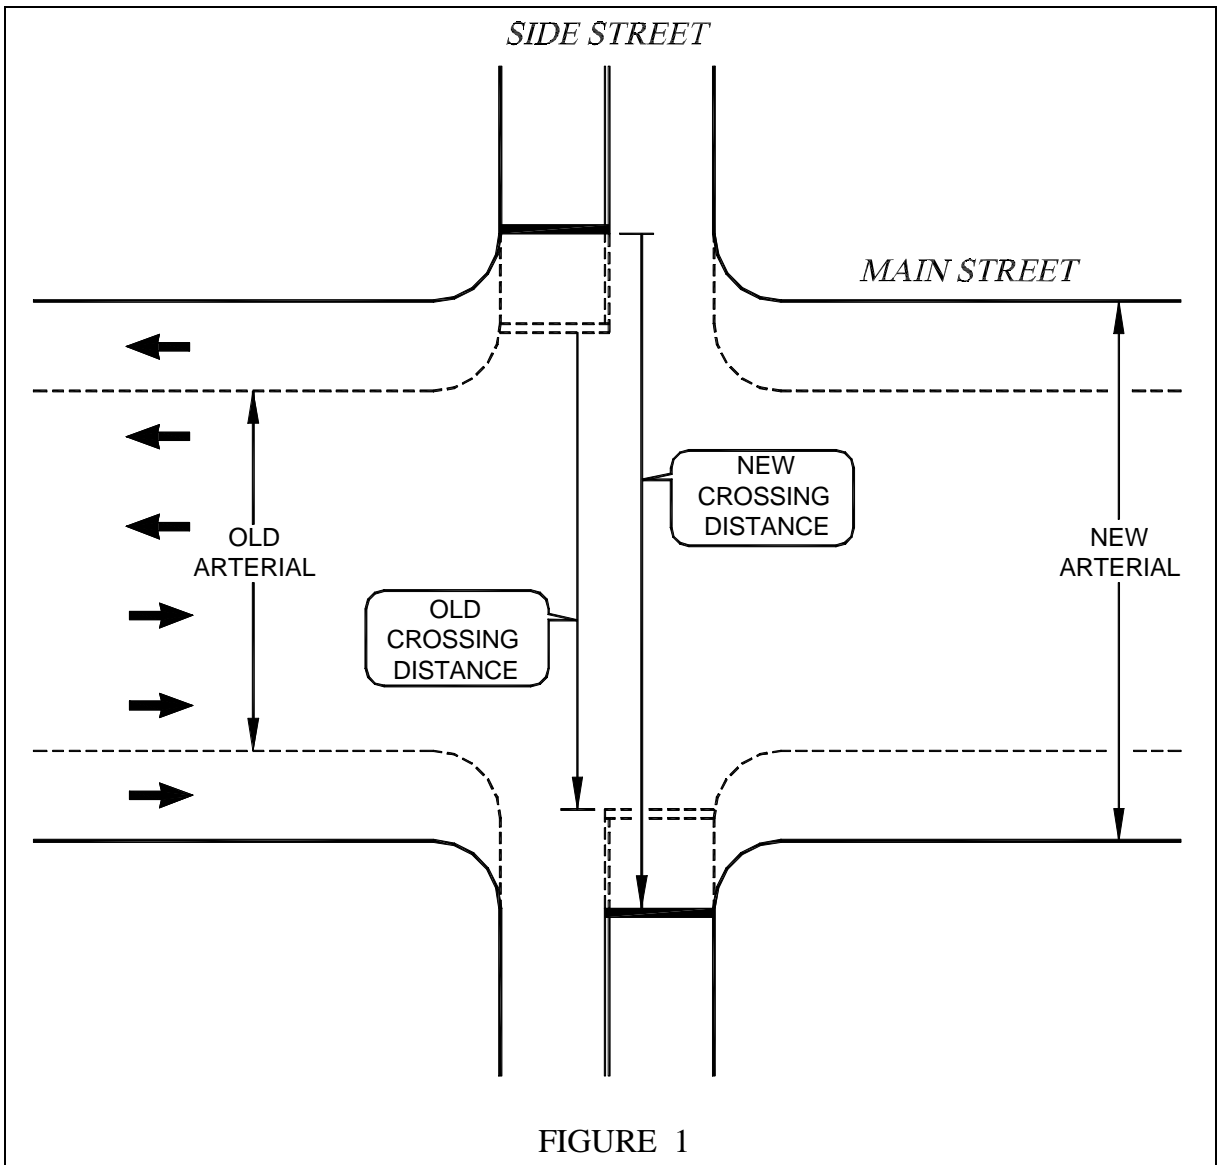

FIGURE 1
1. **Modification of Change Intervals** - As the arterial is widened, the distance that side street traffic must traverse is increased and there often becomes a need for a longer all-red interval (see Figure 1). This need for a longer side street all-red time is increased by the fact that the condition of the pavement often deteriorates during construction. In fact, part of the side street approach might be reduced to the subgrade or base during construction, which slows considerably the vehicular travel. If a longer all-red interval is not provided then the probability of a right angle collision between a slow-moving side street vehicle and a fast-moving main street vehicle is increased.